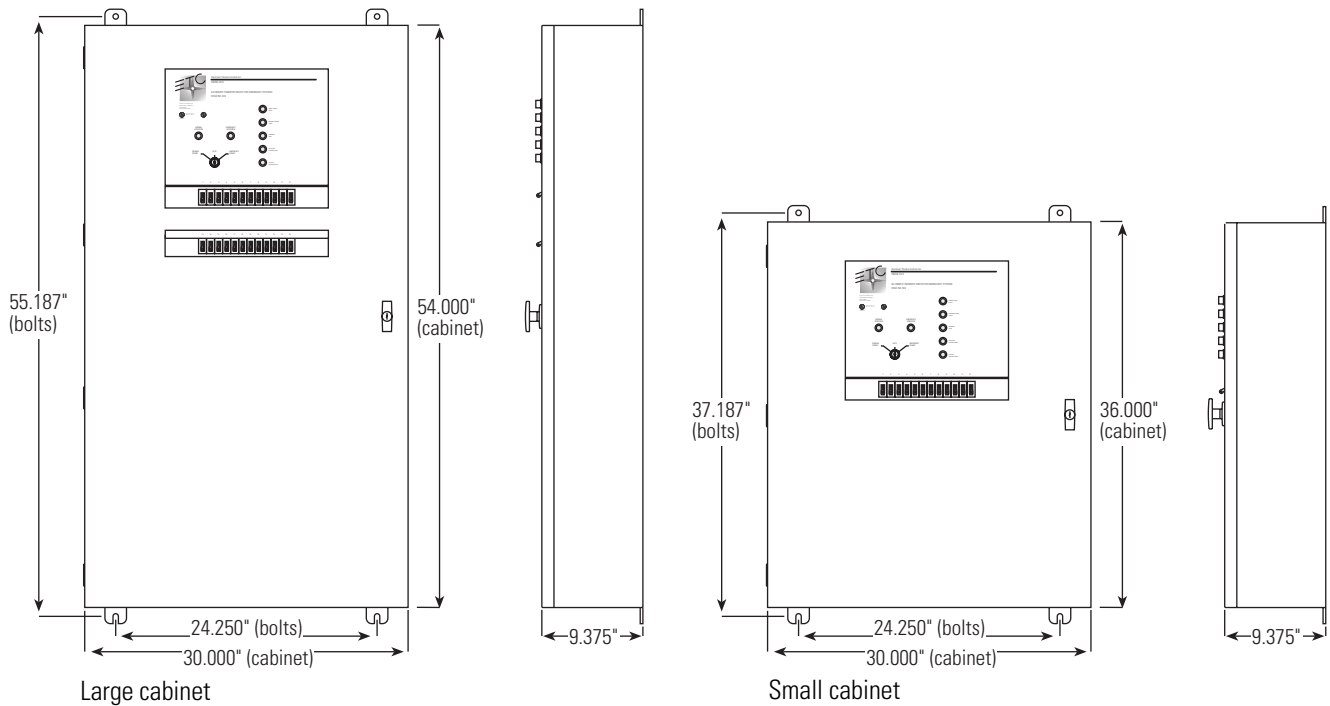

Figure 5: ELTS cabinet mounting dimensions
2. Use the mounting dimensions from Figure 5 : *ELTS cabinet mounting dimensions* on page 9 to drill the holes for the upper two 3/8" bolts.